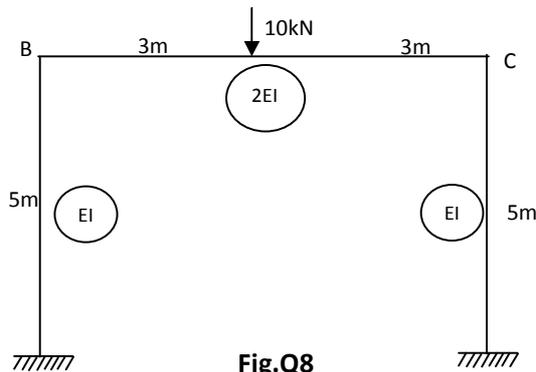

Fig.Q8
8. Analyze the frame shown in Fig. Q8 using matrix flexibility method. Draw BMD (16 marks)